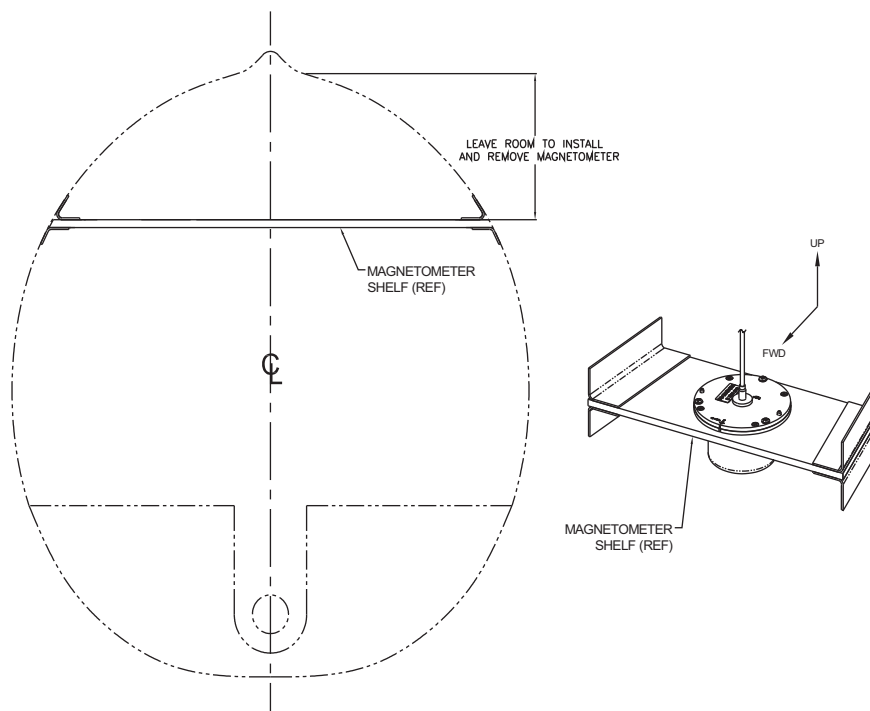

Figure B-20 View Looking AFT At Recommended Magnetometer Location
2. In determining a shelf location, make sure there is enough room above the shelf to install or remove the magnetometer, as well as provide clearance for the associated cable harness as shown in Figure B-20.